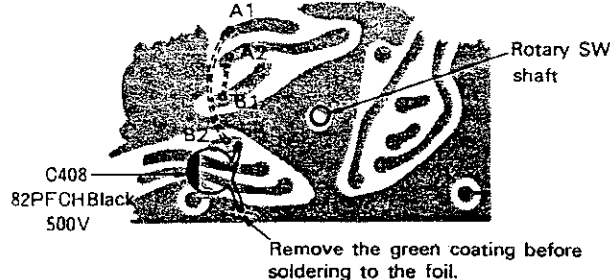

Fig. 15
10. Using the supplied White lead, add 2 jumpers: A1 to B2, and A2 to B1. See **Fig. 15**. Parts installation is complete for this section.